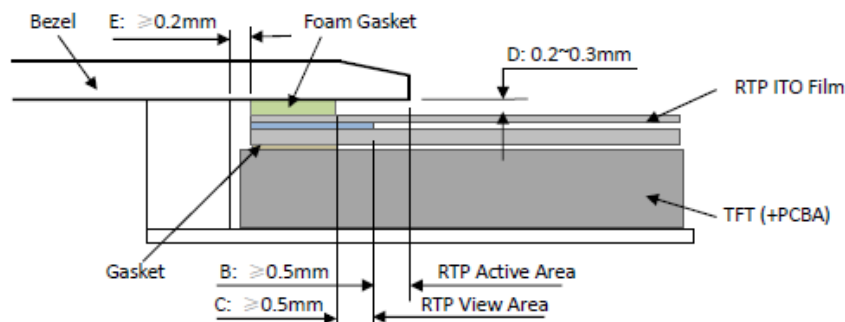

Figure 4
- It should bezel touching the RTP Active Area (A.A.) to prevent abnormal touch.It should left gab D=0.2-0.3mm in between. (Figure 4)
- Outer bezel design should take care about the area outside the A.A. Those areas contain circuit wires which is having different thickness. Touching those areas could de-form the ITO film. As a result bezel the ITO film be damaged and shorten its lifetime. It is suggested to protect those areas with gasket (between the bezel and RTP).The suggested figures are B≥0.50mm; C≥0.50mm. (Figure 4)
- The bezel side wall should keep space E= 0.2 ~ 0.3mm from the RTP. (Figure 4)
- 为避免面框直接压在动作区 (A.A.) 上造成误动作, 面框与电阻触摸屏 (RTP) 之间应留有一定的空隙 D=0.2~0.3mm 之间. (附图 4)
- 设计面框时, 要注意用面框保护触摸屏四周的非保证操作区域, 因为布线区域在此处形成一台阶, 在此区域附近操作时 ITO Film 变形较大, 容易导致 ITO 损坏而降低寿命。为保护 RTP 和避免误操作, 在 RTP 与面框之间垫缓冲物 (Gasket), 我们建议设计面框应覆盖动作区的边缘, 面框边缘到 V.A. 区的距离 B ≥ 0.50mm; 垫圈内边缘到 V.A. 区的距离 C ≥ 0.50mm. (附图 4)
- 在设计面框与 RTP 组装时, 应考虑到面框内侧与 RTP 外侧的间距 E ≥ 0.2mm. (附图 4)